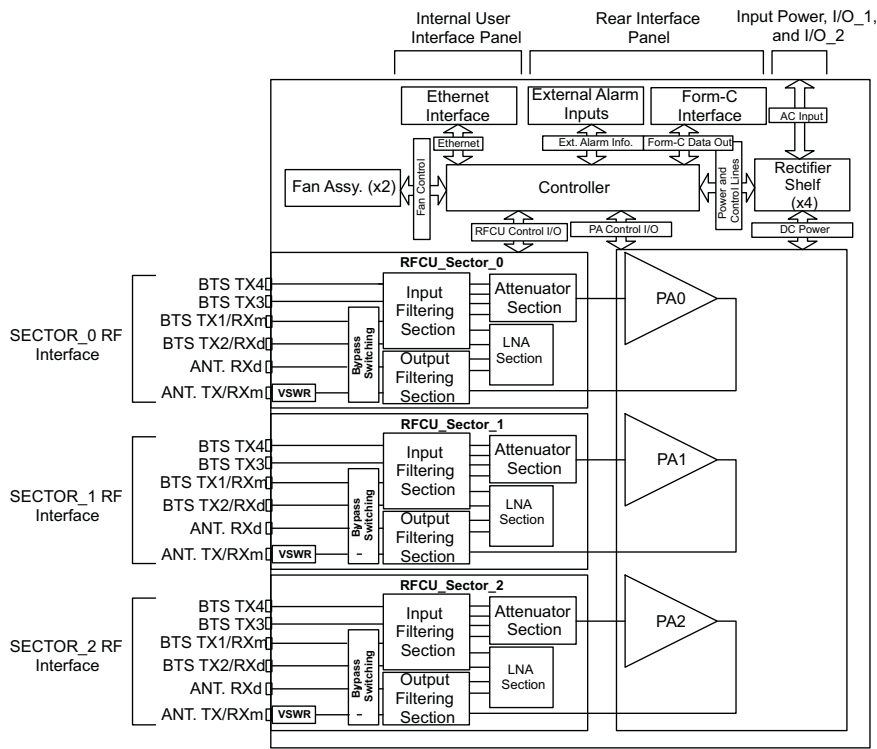

Figure 1-1 Outdoor System Block Diagram
The outdoor system (OS), shown in Figures 1-1 through 1-4, is a three-way system operating in a 60MHz transmit frequency band from 1930 to 1990MHz with an instantaneous bandwidth of any 60MHz within the operating transmit band and an uplink frequency range of 1850 to 1910 MHz.